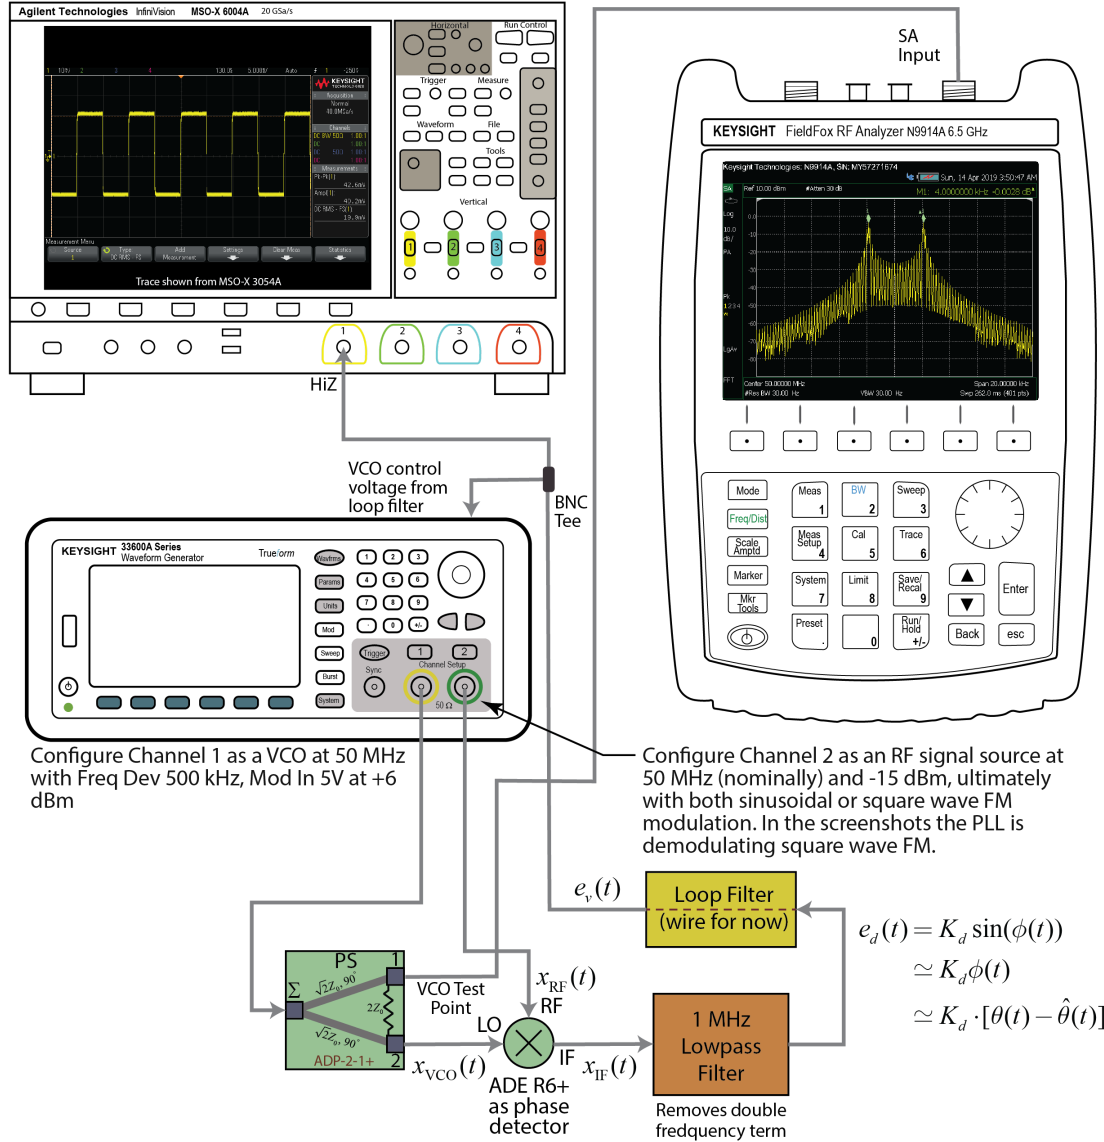
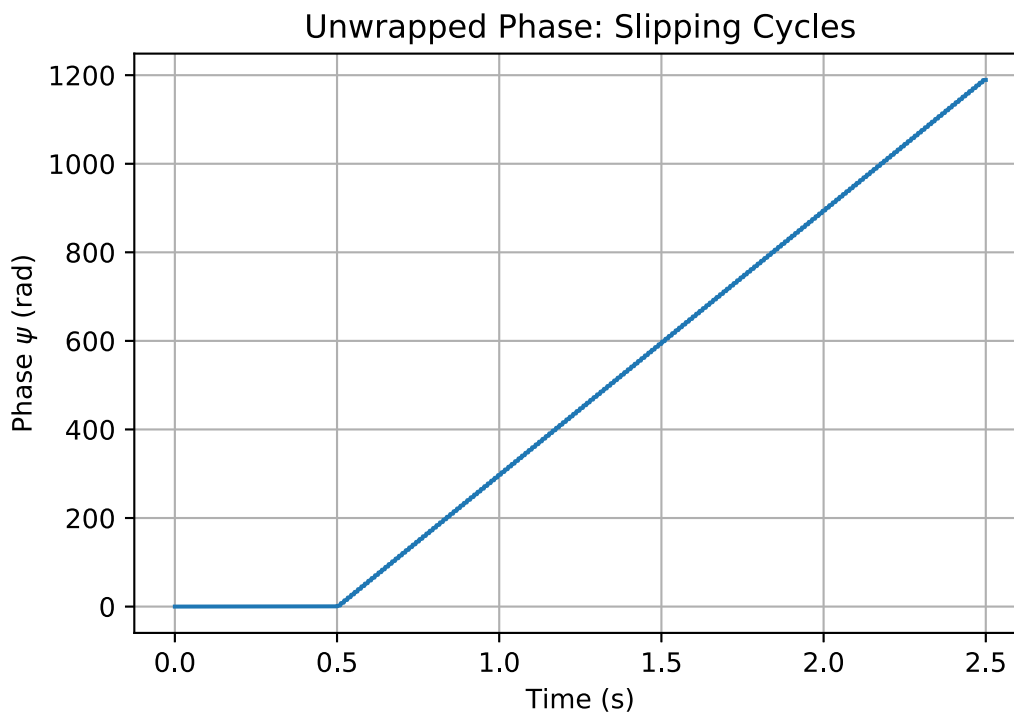

Figure 16: Instrument configuration for building a first-order PLL using one of the mixers on the RF board.
Figure 18: Python first-order PLL phase error output showing cycle slipping when frequency offset exceeds the lock range (of 4500 Hz in this case).
Consider the test setup shown in Figure 16 below:
1. Configure the test set-up of Figure 16. In particular Channel 1 is now used as a VCO centered at 50 MHz and +6 dBm power with *Freq Dev* of 500 kHz and external *Mod In* at +5V. Channel 2 is configured initially as an unmodulated carrier at nominally 50 MHz and -15 dBm power level. Note that the loop filter in this case is just a wire from the phase detector directly to the VCO input (back panel of the 33600). Initially do not connect the phase detector output to the VCO input, but do probe with the scope to see the difference frequency at the phase detector output. When the input signal and VCO are slightly offset in frequency, you observe the difference frequency (*beat note*) on the scope. It is of the form
- Now apply FM modulation by properly configuring the modulation options for Channel 2 of the 33600. Note the screen shots in Figure 16 are for square wave modulation with the scope showing the VCO control voltage the spectrum analyzer showing the VCO spectrum as it is phase locked to the input RF signal. On Channel 2 set *Freq Dev* to 2 kHz, waveform to sine at $f_m = 100$ Hz. Assuming the closed-loop bandwidth is greater than 100 Hz (it should be around 4500 Hz for the setting discussed in Figure 16), the PLL should be tracking the FM input signal, that is the VCO control voltage (phase detector output voltage) will follow the modulation. Verify this on the scope. This waveform is the demodulated FM signal. Compare your results with the Python simulation shown in Figure 18. If the modulation is switched to a square wave you should see the loop properly tracking the modulation, but should be able to observe the rise time/fall time is controlled by the finite loop bandwidth.